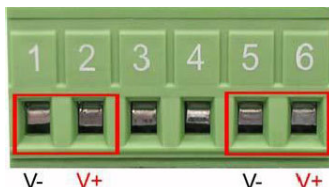

Figure 3
1. Insert the positive and negative wires into V- and V+ contacts, see Figure 3.